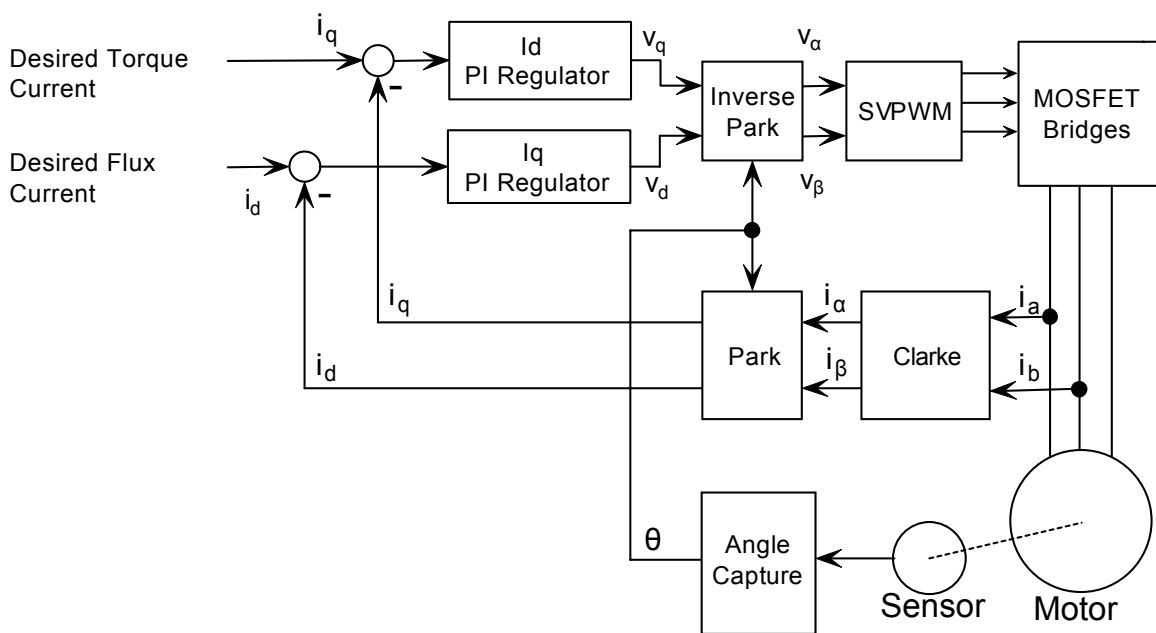

Figure 8-11. FOC operation
Field Oriented Control is available on selected models of Roboteq motor controllers. It is uses a classical implementation as described in the figure 8-11. The current in the motor phase is captured, along with the rotor's angle. From this are computed the useful I_q and wasteful I_d . Two Proportional-Integral (PI) regulators then work to control the power output so that the desired Torque (I_q) and Flux (I_d) currents are met. The desired Flux current is typically set to 0, and so the regulator will work to totally eliminate the Flux current.